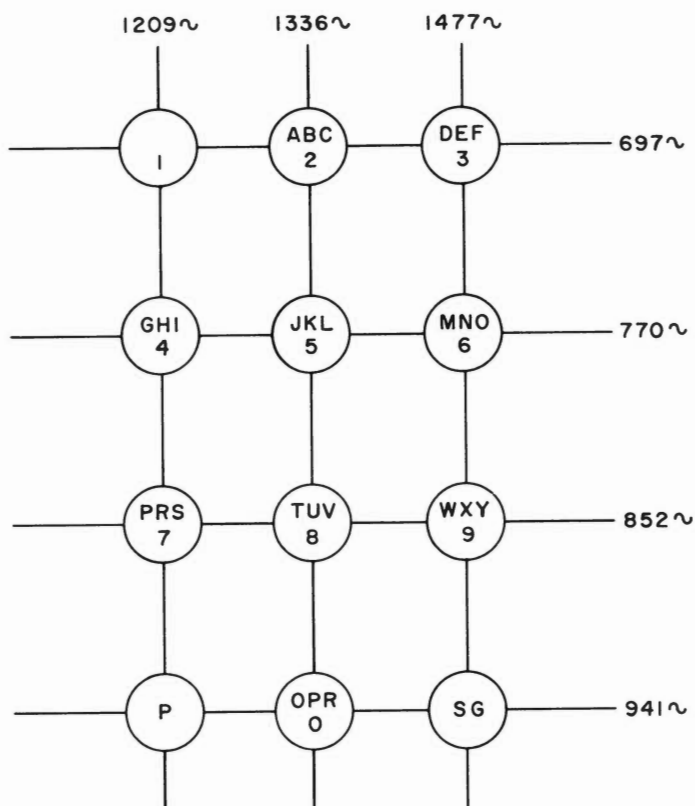

Fig. 3 - Dial Frequencies
3.06 The oscillator generates two frequencies simultaneously. The push-button at each grid intersection selects its coordinate frequencies (see Fig. 3). For example, button 5, depressed, selects 1336 cycles and 770 cycles for transmission to the central office.